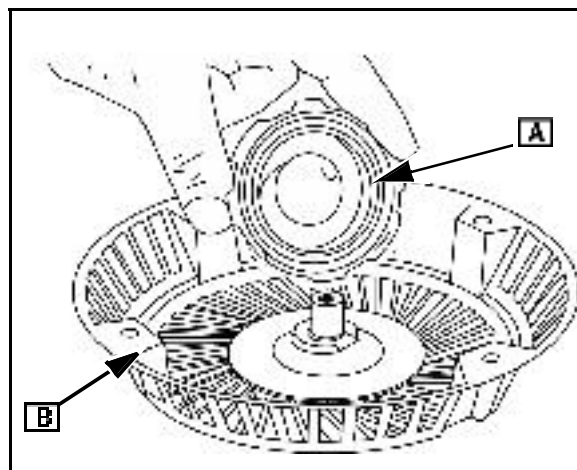

Fig. 13
11. Remove spring and cup (A) from starter housing (B) (Fig. 13) or pulley.